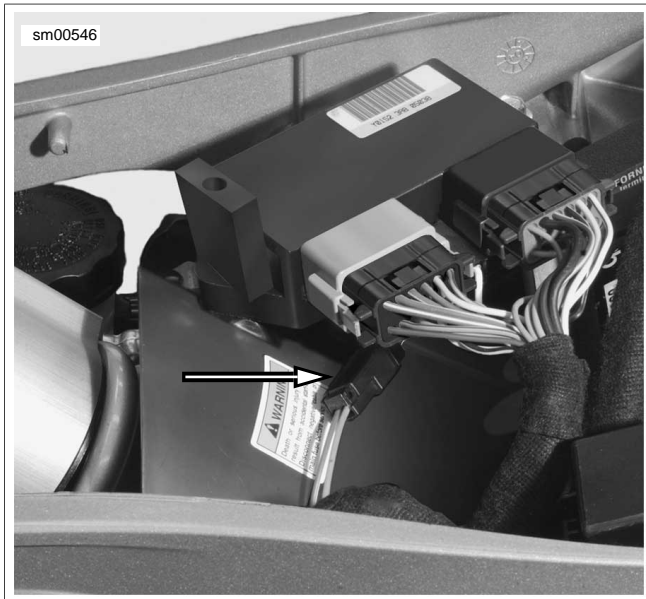

Figure 2-78. Brake Line Switch Connector (Ulysses)
- See Figure 2-78. Disconnect brake light connector from under seat in the front of the battery.
5. See Figure 2-78. Connect brake line switch connector beneath seat.